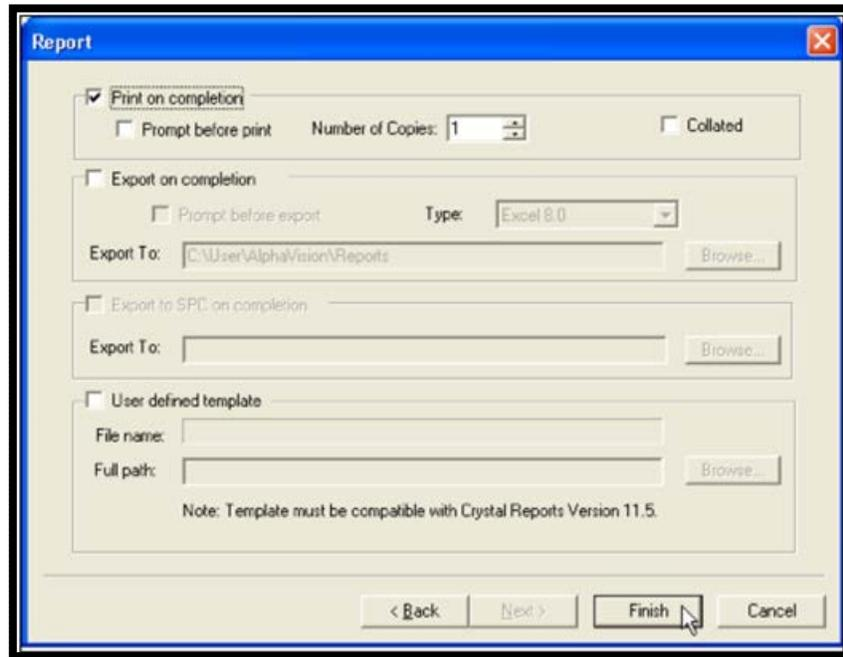

Figure 158. Report – Print on Completion
- 11) Use the features on the Report page (Figure 158) if it is desired to automatically print the analysis results and/or export them to other file formats or custom report templates. (This can be completed from the Report Window.) In this case, click **Print on Completion**.